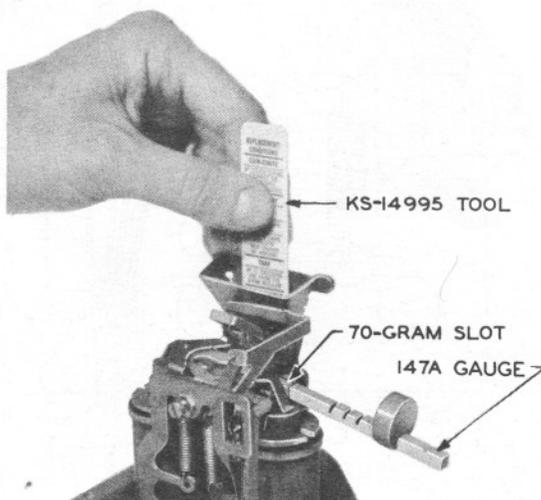

Fig. 7 - Trap and Vane Release Test
2. Apply slot 70 of 147A gauge to right rear horizontal portion of relay operating arm. Make sure that enclosed end of slot is against edge of operating arm and that weight on gauge is positioned up, as shown in Fig. 7.
4. Insert KS-14995 coin collector tool into throat of hopper. Let tool down as far as it will go without forcing and hold in place, as shown in Fig. 7.